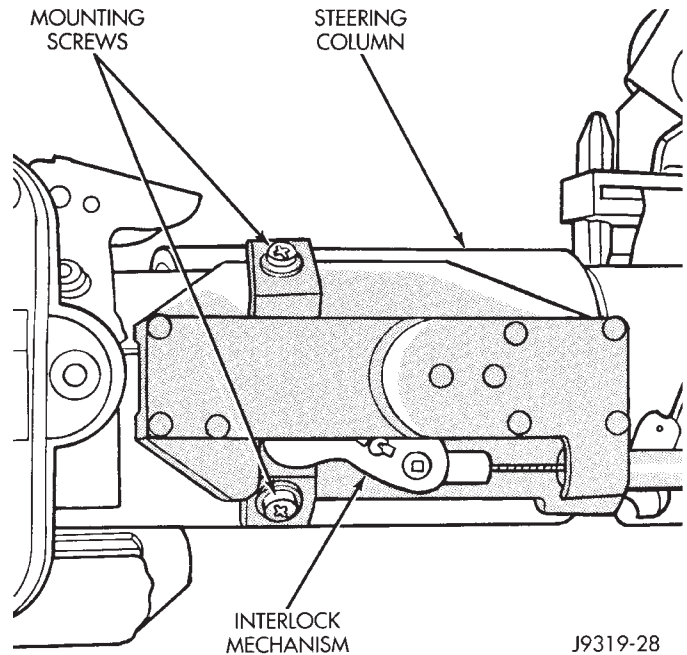

Fig. 3 Interlock Mechanism on Column
(2) Secure the plastic base with two (2) self tapping screws (Fig. 3).